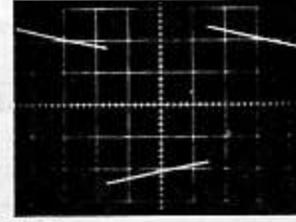

Fig. 5.
- Fig 5. 40Hz squarewave into 8 ohms. Minimum tilt.